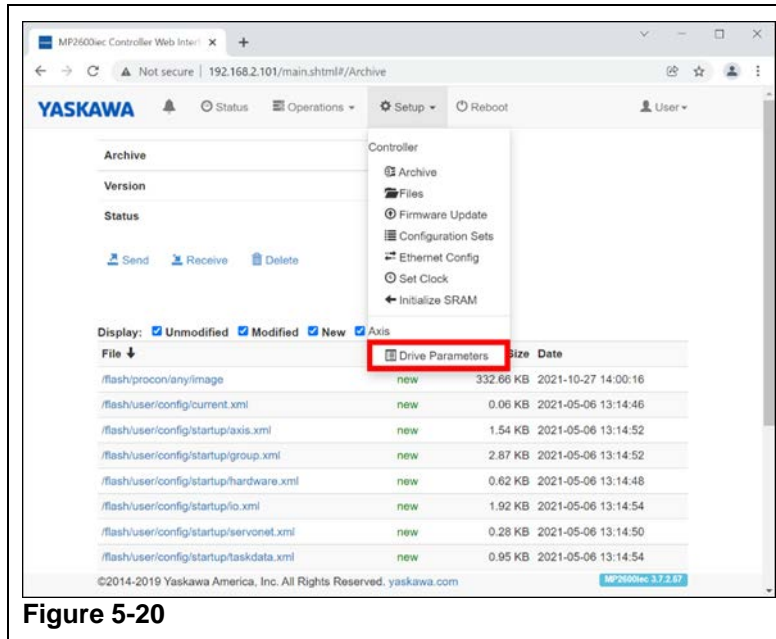

Figure 5-20
- i. From the 'Setup' pulldown menu of the Yaskawa website page, select the "Drive Parameters" option. (Refer to Figure 5-20)